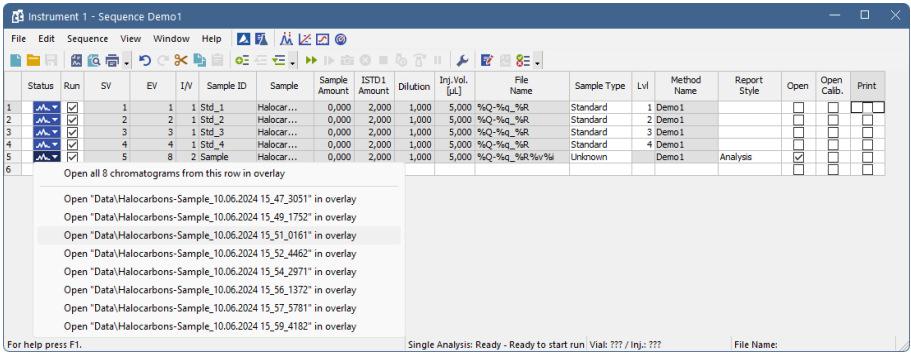

Fig. 21: Opening chromatograms in overlay
- A small triangle will appear in the icon  if a chromatograph is produced by the particular measurement in the row. Left mouse click on the triangle will open the menu where you can open the measured chromatogram(s). You can click on the name of the chromatogram to open it or select option to open all chromatograms in overlay as seen in **Fig. 21** on pg. 35.